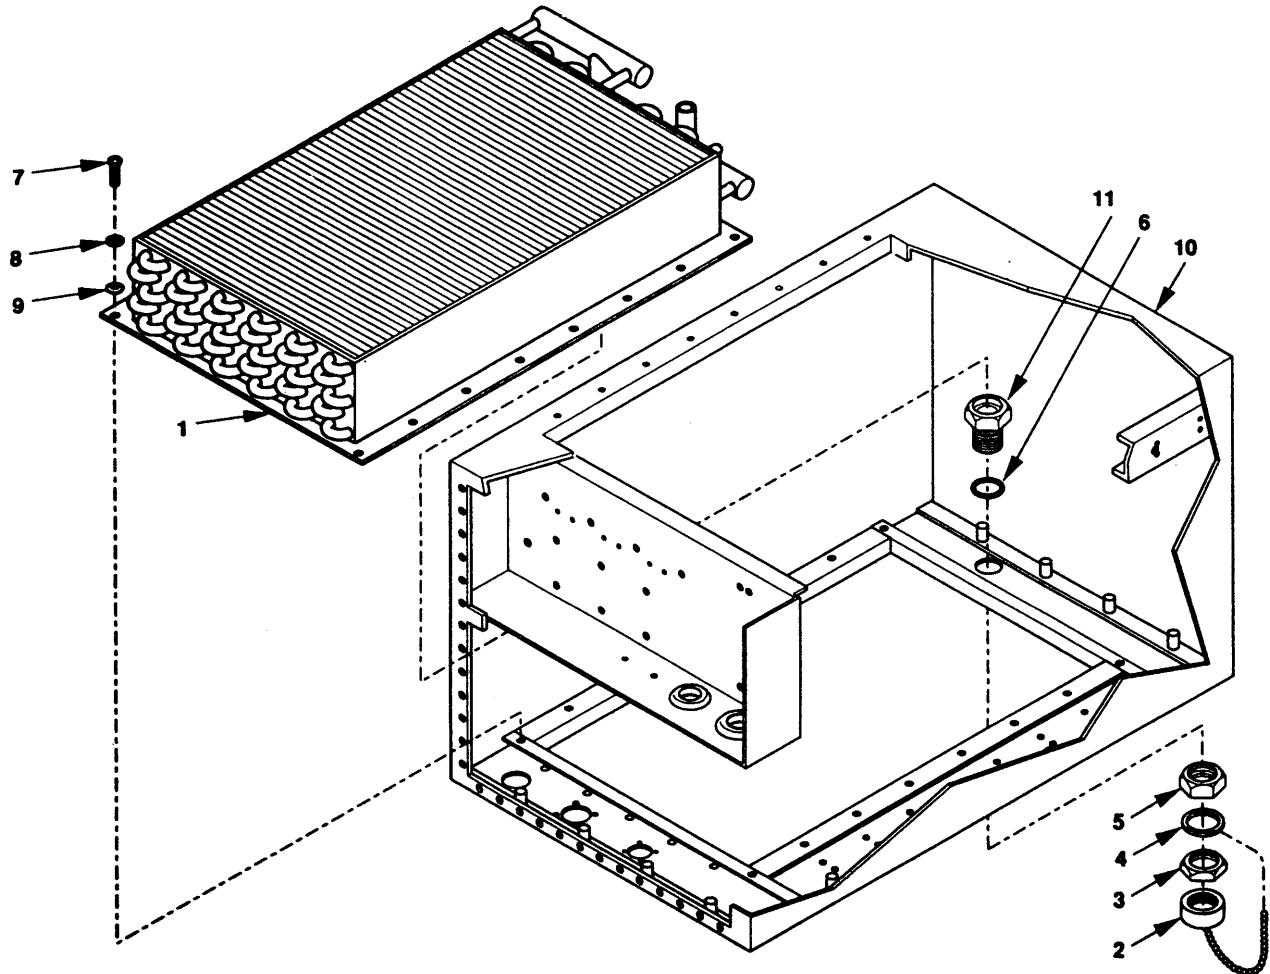

Figure 5-10. Condenser Coil Maintenance.
- (1) Clean debris, dirt or other obstructions from condenser coil (Figure 5-10, 1) .
- (2) Using fin comb, straighten any bent fine on condenser coil (1).